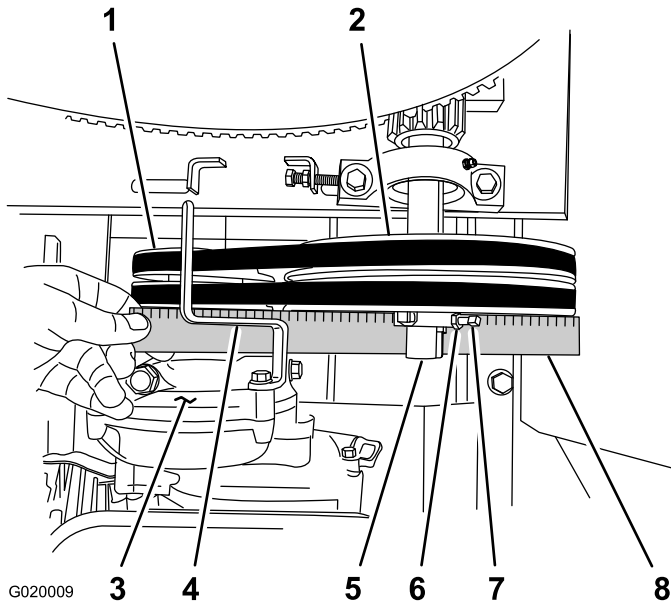

Figure 57
- D. Align a straightedge across the engine pulley and the idler pulley (Figure 57).
- E. If needed, pivot the engine on the engine deck until the engine pulley and the idler pulley are aligned to the straightedge (Figure 57).